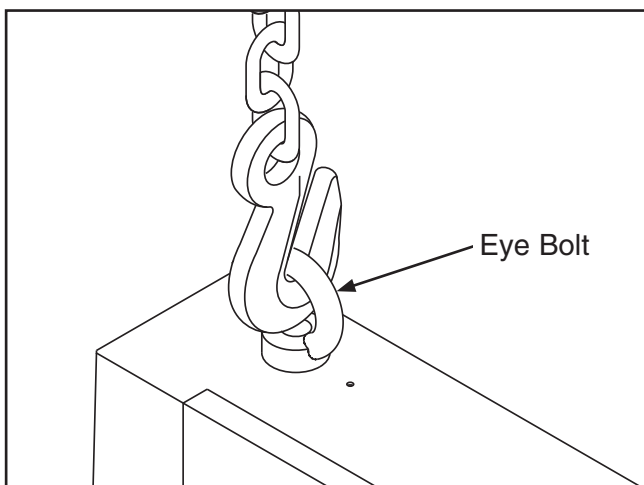

Figure 13. Lifting the bandsaw.
2. Install the eye bolt shown in **Figure 13** if it is not already installed (make sure it is threaded all the way in), then place the lifting hook through the eye bolt and lift slowly with a forklift.